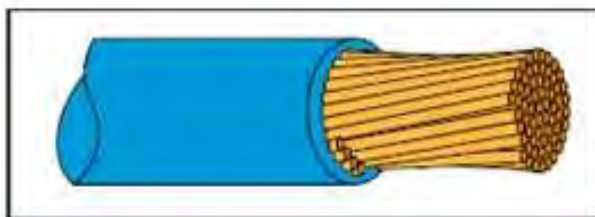

Figure 99
- (3) Inspect wire strands as follows:
a. Broken, nicked, or cut strands as listed below and shown in Figure 99.